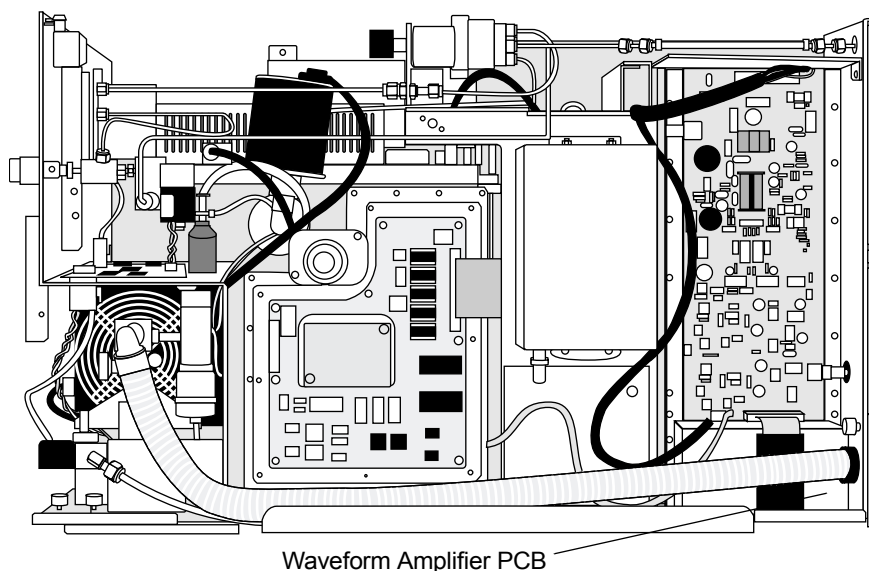

Figure 7-21. Right Side View, Showing the Waveform Amplifier PCB.
6. Remove the metal cover of the Waveform Amplifier PCB, which is shown in Figure 7-21.